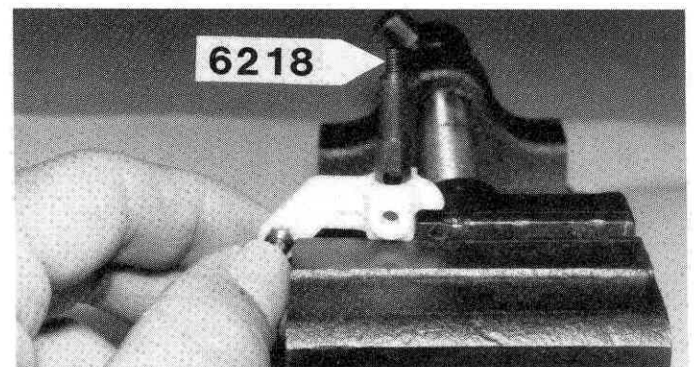

Fig. 11
□ **Fig. 11** Push the front axle #6218 into the steering block #6217 as shown so the hole in the axle lines up with the hole in the steering block. It may push together with your fingers. If not, LIGHTLY tap it into the hole. Assemble the right hand side in the same way.